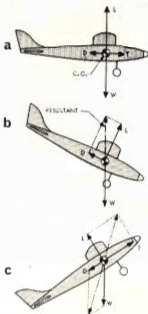

Figure 4.3
This is the stability in pitch, i.e., the model moving its nose up and down. Consider figure 4.3. At (a) the aircraft is shown in level flight where the lift (L) equals the weight (W) and the thrust (T) equals the drag (D). The arrows show the direction of the forces and the length of an arrow represents the size of the force. Assume now that the thrust is removed. There will now be no force to balance the drag and so the aircraft must take up a new position to restore equilibrium. It does this by putting its nose down and gliding as shown in (b). The resultant of the lift and drag is now balanced by the weight. If on the other hand the thrust increases over that required for level flight the plane will nose up into a climb as at (c). It is important to notice that as the thrust is now supporting some of the weight the lift must be less than it was for level flight for the forces to
Figure 4.3 shows particular aeroplanes where all the forces passed through the centre of gravity. This very rarely occurs in practice and we must now look at cases as shown in figure 4.4. In (a) the drag is assumed to pass above the C.G. which would tend to rotate the nose of the model upwards. To counteract this, the thrust line may be inclined to also pass above the C.G. giving a balancing, nosedown, force. In (b) the wing lift is acting in front of the C.G. which would cause the model to nose up but the tailplane is set to give an upwards lift which will restore the balance. These are but two examples, there are many other ways in which the forces may be arranged to give a balance. (In figure 4.4 the arrows only indicate the direction of the forces and not their magnitude).
It is necessary that the forces on a model should be in equilibrium as shown in figures 4.3 and 4.4 but this does not automatically ensure stability. A body may be in unstable equilibrium or in stable equilibrium. If a body is in unstable equilibrium, when disturbed it will move further from its original position. If a body is in stable equilibrium it will try to return to its original position after a disturbance. Unstable equilibrium is usually referred to as "instability" and stable equilibrium as "stability". A cone gives a good example of the two cases. If a cone is balanced on its point a slight disturbance will cause it to fall over. It is unstable. If, however, the cone rests on its base, after a small disturbance it will return to its original position. It is then stable.
The obvious question that now comes to mind is; Why do we sometimes use a rearward C.G. when stability is more easily achieved with the C.G. right forward under the wing lift? The fact is that we can, and usually do, use a forward position for the C.G. on gliders and low powered models but on high powered models it is very difficult to control the climb unless the C.G. is moved rearwards. You will remember that when talking about *figure 4.3* we said that the lift must be reduced when a model is in a climb. This is done by trimming the model to fly at a reduced angle of attack. The effect of all the different forces acting on the climb is very complicated, but we can state roughly that the high static stability of a forward C.G. would act to prevent the trim forces reducing the angle of attack.
It will be apparent from a study of figure 4.3 (b) that an aircraft will glide at its flattest angle when the ratio of lift to drag is a maximum. (Remember that the resultant must always be vertical over the weight.) This condition, however, does not give the minimum sinking speed. It can be proved that the minimum sinking speed will occur when the Lift cubed divided by the Drag squared is a maximum. For most normal wing sections this condition is just below the angle of attack at which the wing stalls. This is the justification for the usual method of trimming whereby we adjust the model until a stall starts to appear and then go back a little to just remove the stall.